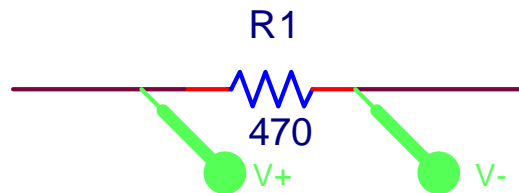

Figure 2: Differential Probe
- (1) Simulate the above circuit in PSPICE from 0 to 2 ms. (It takes 0.5 ms to stabilize signals). Determine from the graph the voltage drop across the output inductor (L_1). **Save the waveforms and add it to your prelab report.**
- (2) Assuming the waveform of the voltage drop across L_1 is $v_L = V_{Lp} \cos \omega t$, determine the amplitude (V_{Lp} , in 'Volt') and the radian frequency (ω , in 'rad/sec') from the waveform.
- (3) Plot the waveform v_R for the voltage across R_1 in PSPICE. **Save the waveform and add it to your prelab report.** (Hint – To measure the voltage drop across the R_1 , you need to add a differential probe. The differential probe can be found near the top of the schematic window next to the voltage probe radio button. Its symbol is . You need select the differential probe radio button and differential probe across the resistance as shown in Figure 2 below: